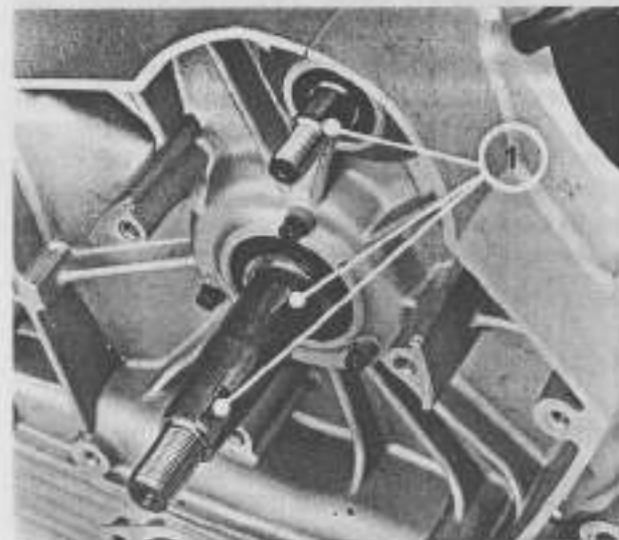

Fig. 117
Carefully examine the tapered surfaces of the crankshaft and of the generator rotor, which should be in perfect condition. The Woodruff keys fitted in the crankshaft (2) and in the camshaft (1) ends should be in good condition and firmly installed in their keyways (Fig. 117).